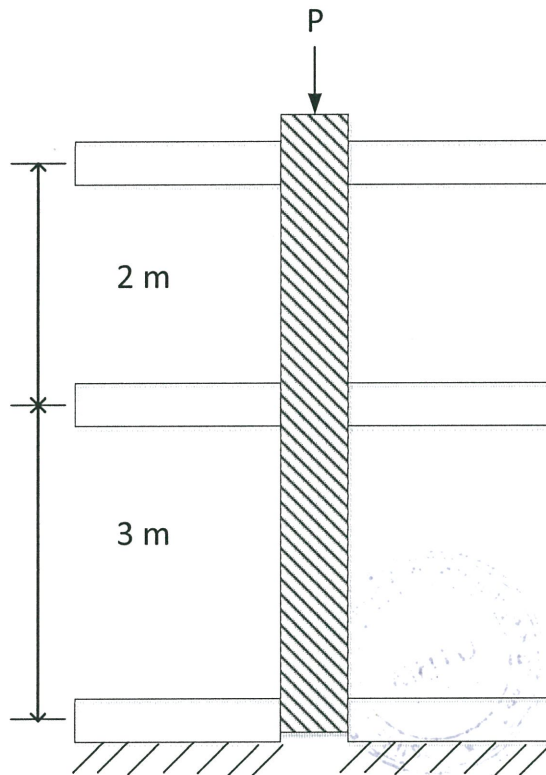

Figure Q5
- (b) A column of 5 m height is to be designed using Nyatoh with standard grade at 19 % of moisture content as shown in **FIGURE Q5**. The column is restrained in different conditions at every level and loaded with a concentric load, P.